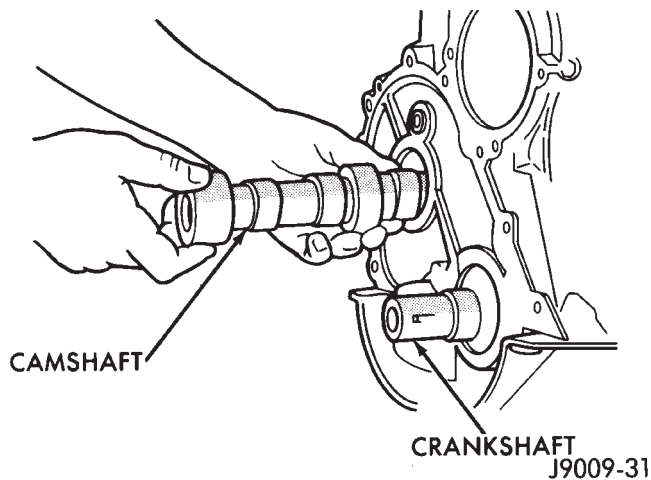
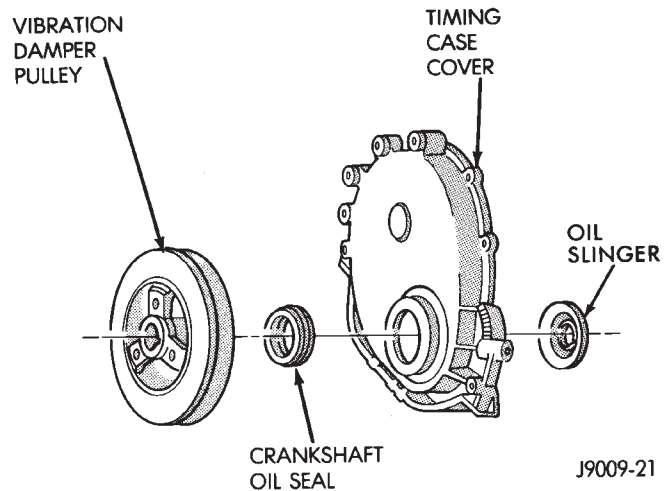

Fig. 9 Camshaft
Fig. 10 Timing Case Cover Components
(6) Remove the distributor and ignition wires.
(7) Remove the engine cylinder head cover.
(8) Remove the rocker arms, bridges and pivots.
(9) Remove the push rods.
(10) Remove the engine cylinder head and gasket.
(11) Remove the hydraulic valve tappets from the engine cylinder head.
(12) Remove the vibration damper.
(13) Remove the timing case cover.
(14) Remove the timing chain and sprockets.
(15) Remove the front bumper and/or grille, as required.
(16) Remove the camshaft (Fig. 9).
(1) Lubricate the camshaft with Mopar Engine Oil Supplement, or equivalent.
(2) Carefully install the camshaft to prevent damage to the camshaft bearings (Fig. 9).
(3) Install the timing chain, crankshaft sprocket and camshaft sprocket with the timing marks aligned.
(4) Install the camshaft sprocket retaining preload bolt. Tighten the bolt to 108 N•m (80 ft. lbs.) torque.
(5) Lubricate the tension spring, the thrust pin and the pin bore in the preload bolt with Mopar Engine Oil Supplement, or equivalent. Install the spring and thrust pin in the preload bolt head.
(6) Install the timing case cover with a replacement oil seal (Fig. 10).
(7) Install the vibration damper (Fig. 10).
(8) Install the hydraulic valve tappets.
(9) Install the engine cylinder head.
(10) Install the push rods.
(11) Install the rocker arms and pivot and bridge assemblies. Tighten each of the capscrews for each bridge alternately, one turn at a time, to avoid damaging the bridge.
(12) Install the engine cylinder head cover.
(13) Install the serpentine drive belt and tighten to the specified tension (refer to Group 7, Cooling System for the proper procedure).